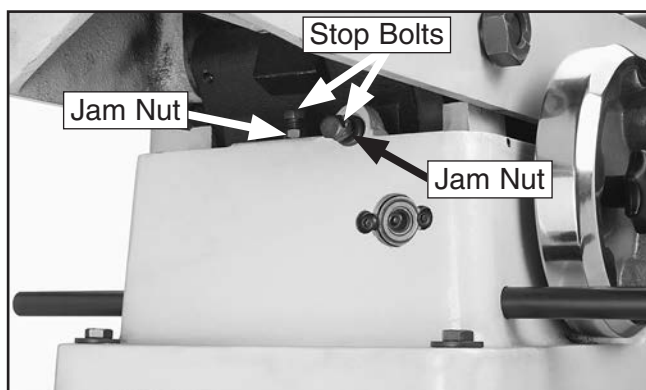

Figure 33. Outfeed table positive stop bolts.
4. Loosen the outfeed table lock located at the front of the machine, then loosen the jam nuts and positive stop bolts located under the outfeed table (see **Figure 33**).